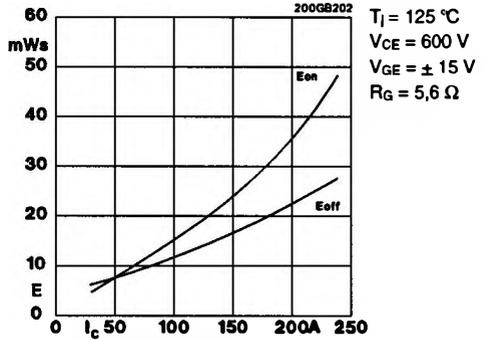

Fig. 2 Turn-on /-off energy = $f(I_c)$
5) See fig. 2 + 3; $R_{Goff} = 5,6\ \Omega$